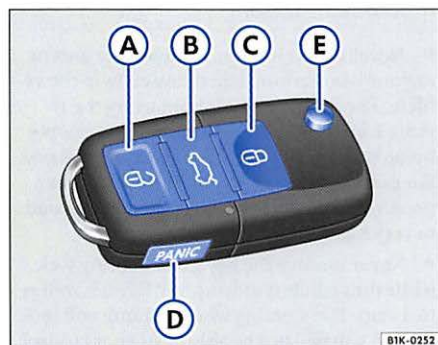

Fig. 25 Assignment of buttons on the remote control key
The remote control transmitter and the batteries are inside the key fob. The receiver is inside the vehicle. The maximum range of the remote control depends on various conditions. The range is shorter when the batteries are weak $\Rightarrow$ fig. 25.
- Individual door opening can be programmed through the Convenience menu ⇒ page 16 or by your authorized Volkswagen dealer or qualified workshop. Press the  button once to unlock just the driver's door ⇒ page 28, fig. 25. Press the button a second time to unlock all the doors and the rear lid.